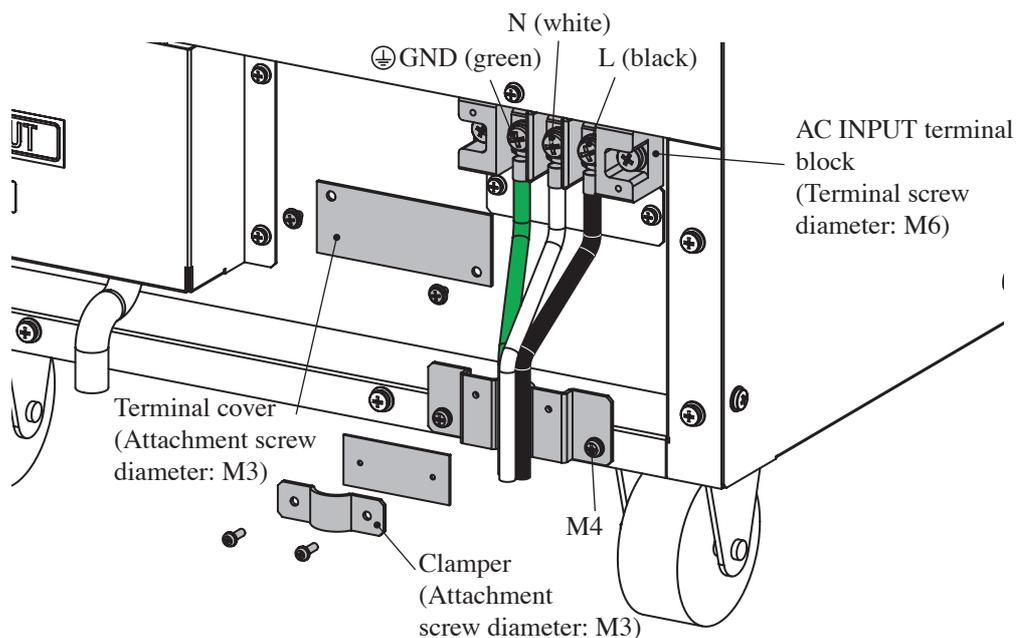

Fig. 1-6 AC INPUT terminal block connection of Type IV model
1. Connect the power cord provided to the AC INPUT terminal block and fix the cables securely by clammer as shown in Fig. 1-6.